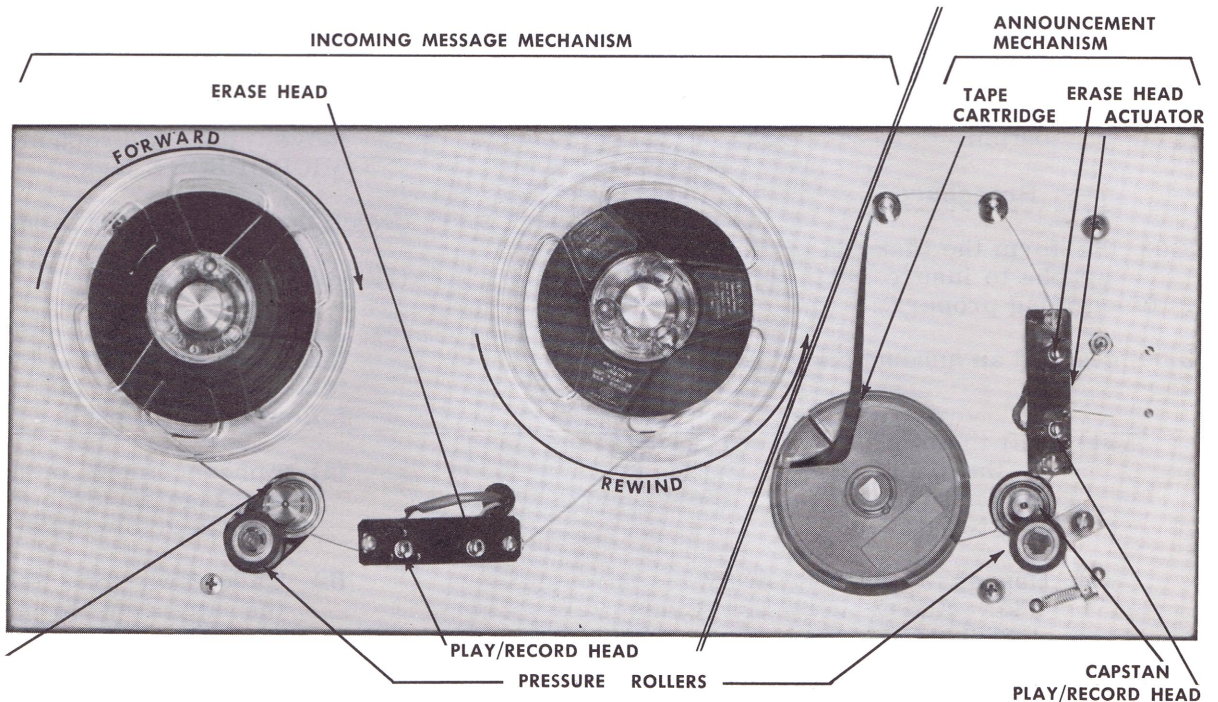

Figure 2. Model LP-TD-C Tape Deck - Top View.
- (1) Place the announcement message cartridge on the "D" shaped spindle (Figure 2).
- (2) If the slotted section of tape is visible, pull it out of the cartridge, being careful not to twist it.
- (1) Before installing the incoming message tape cartridge, preset the Elapsed Tape Indicator to read "9-7-0" by depressing the REWIND and RESET buttons.
- (2) Disconnect the power plug.
- (3) Remove the locking screws from both tape reels (Figure 2).
- (4) Place empty reel on left hand (take-up) reel platform, being sure side one of reel is facing up.
- (5) Place full reel of tape on right hand (supply) reel platform, and thread free end of tape around the guide pillars, erase and record heads, and between the rubber pressure roller and capstan.
- (6) Insert free end of tape into the hub slot of the take-up reel; wind reel manually one or two turns clockwise.
- (7) Plug power cord into a-c power supply outlet.
- (8) Momentarily depress the FAST FORWARD and RESET buttons until the Elapsed Tape Indicator shows "0-0-0." Then push the STOP button.